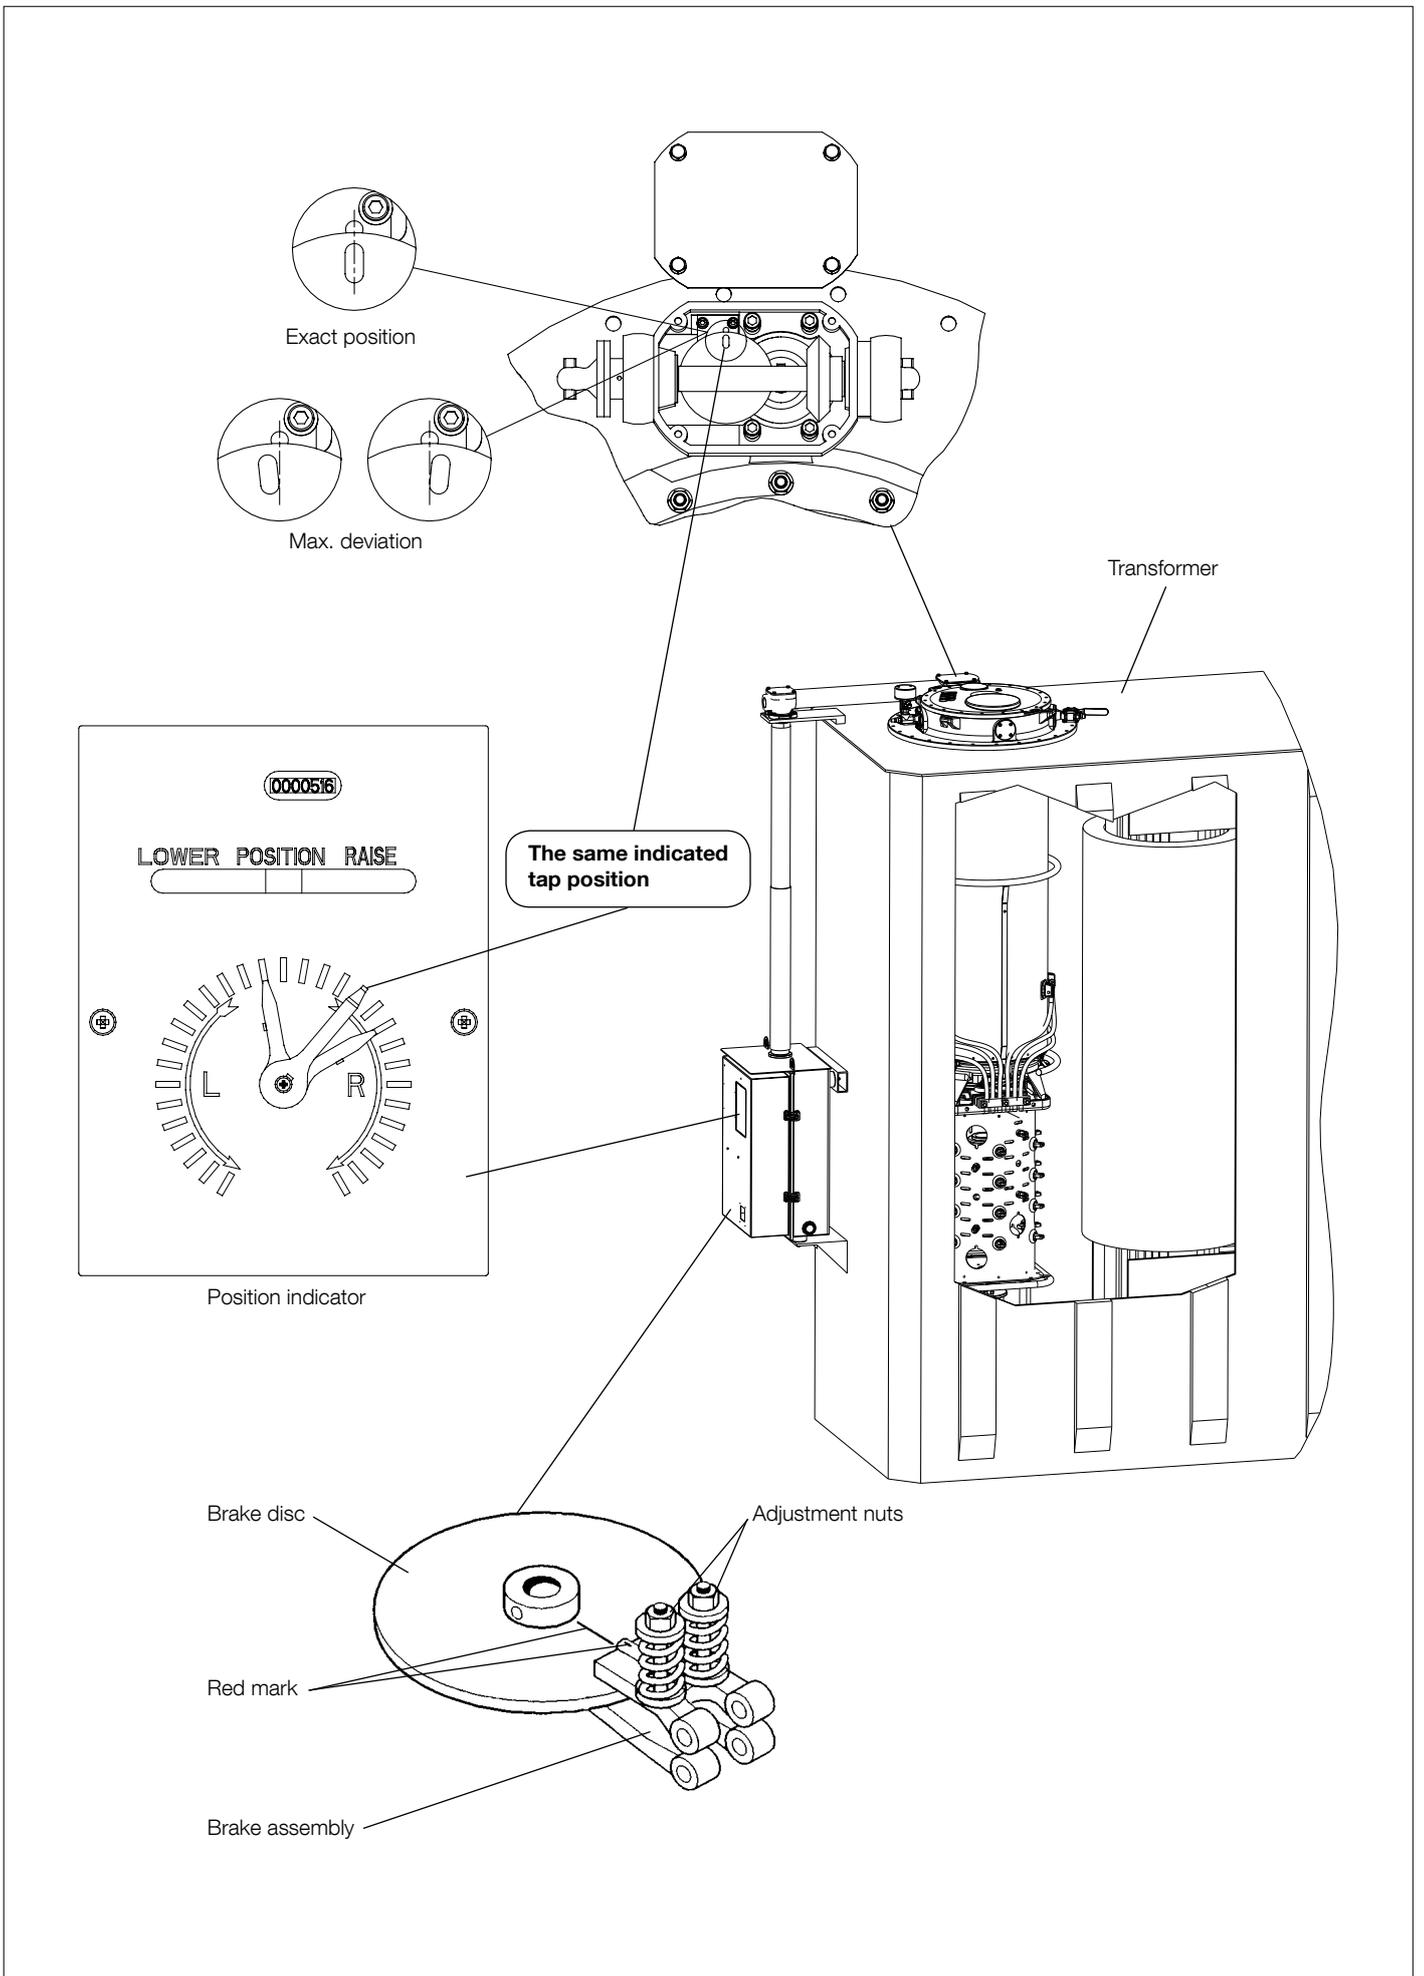

Fig. 24. Position alignment for UCL/VUCL with motor-drive mechanism BUE.
See Figs. 24 and 25.
Check that the motor-drive mechanism is at its exact position according to Fig. 24 or 25. (BUE: The red mark on the brake disk facing the red mark on the brake assembly. BUL: The roller in the middle of the notch in the cam disk). If not, loosen the locking device (see Fig. 44) and adjust it to the exact position. Remount the locking device.
7. See Figs. 24 and 25. The motor-drive mechanism and the tap-changer should have the same indicated tap position and be in their **exact** positions. Remove the cover of the gear box on the tap-changer to access the position indicator.
If the gear box is not at its exact position, loosen the two screws in the multi-hole coupling on the gear box and find the position of the screws that positions the opening in the brass-toothed wheel closest to the red mark in the gear box housing. The maximum deviation from exact alignment is given in Figs. 24 and 25. Tighten the screws. Remount the cover and the gasket of the gear box on the tap-changer; see Fig. 17.